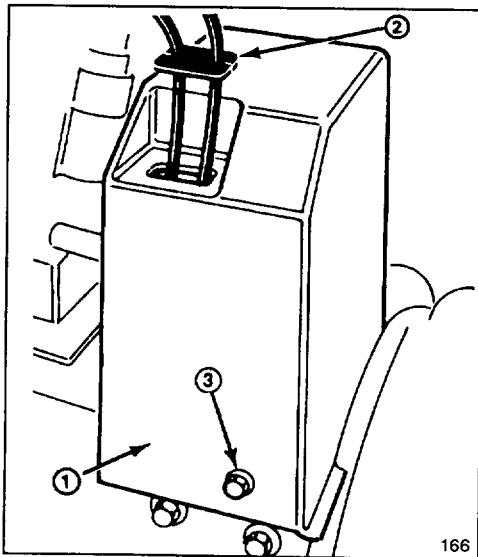

Figure 27
2. Remove (3) flange head capscrews securing belt cover to engine frame and slide belt cover up cables (Fig. 27).
2. Remove (3) flange head capscrews holding belt cover in place, and slide belt cover up cables (Fig. 27).
4. Remove (2) flange head capscrews securing idler pulley assembly to engine frame. Remove idler pulley assembly.